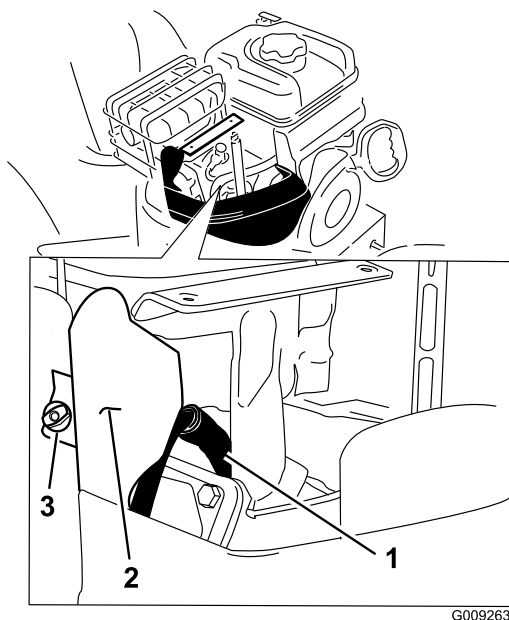

Figure 58
4. Remove the bracket thumb screw and the bracket (Figure 58).
5. Clean around the base of the spark plug (Figure 58).